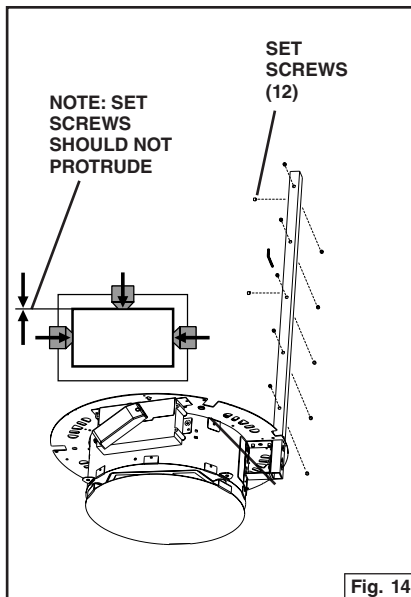

Fig. 14
8. Insert 12 set screws into each lower support arm. Make sure the screws do not protrude into the inner section of the arm. Fig. 14.